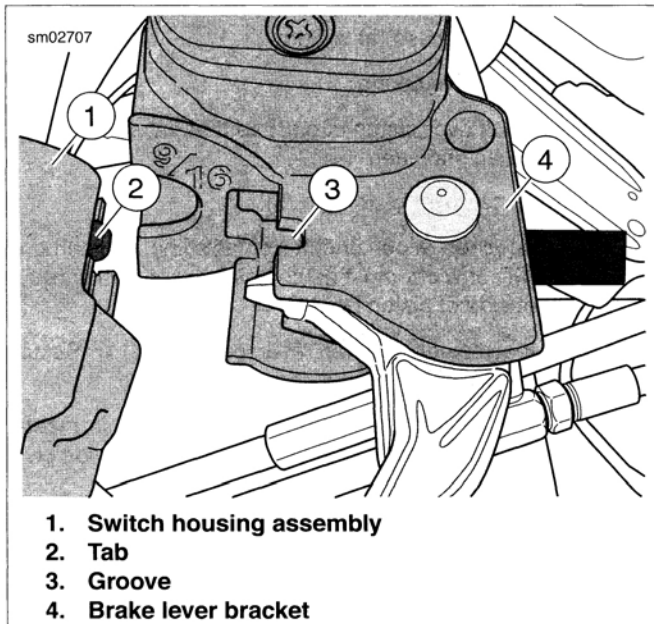

Figure 2-32. Attach Master Cylinder to Right Handlebar Switches
12. See Figure 2-32. Position the brake lever/master cylinder assembly inboard of the switch housing assembly, engaging the tab (2) on the lower switch housing (1) in the groove (3) at the top of the brake lever bracket (4).